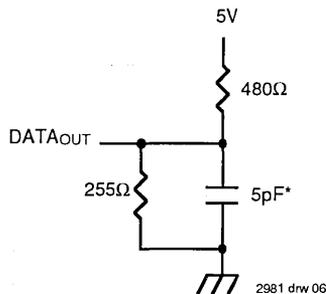

Figure 2. AC Test Load
- This parameter is guaranteed with AC Load (Figure 2) by device characterization, but is not production tested.